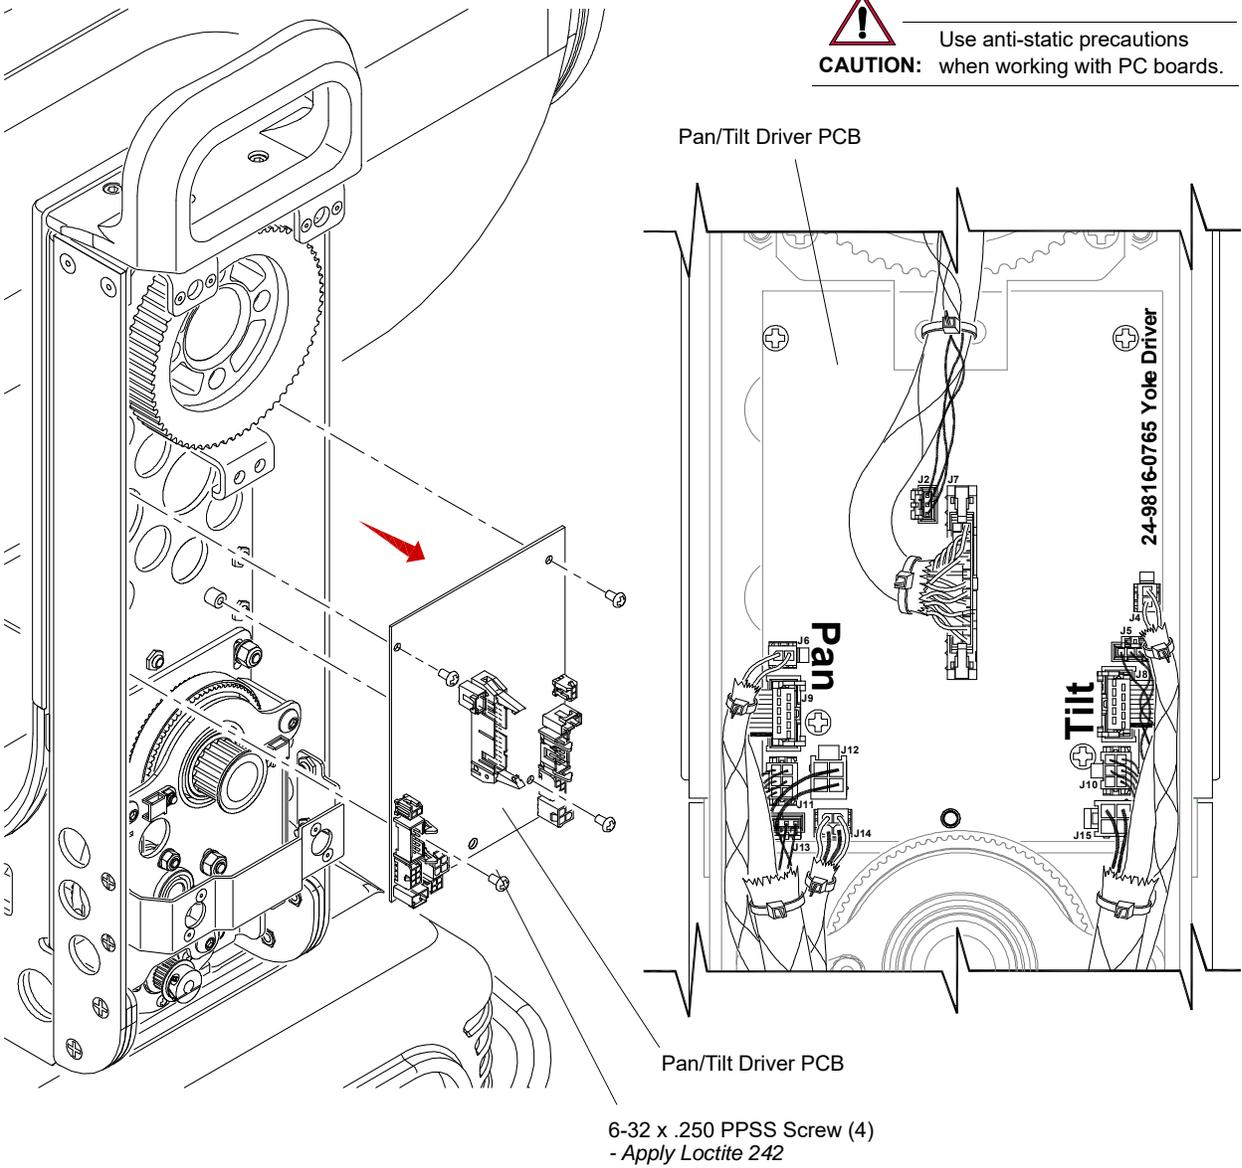

Figure 3-57: Removing Pan/Tile Driver PCB
- Step 5. At Pan/Tilt Driver PCB, disconnect all cables (**Figure 3-57**).